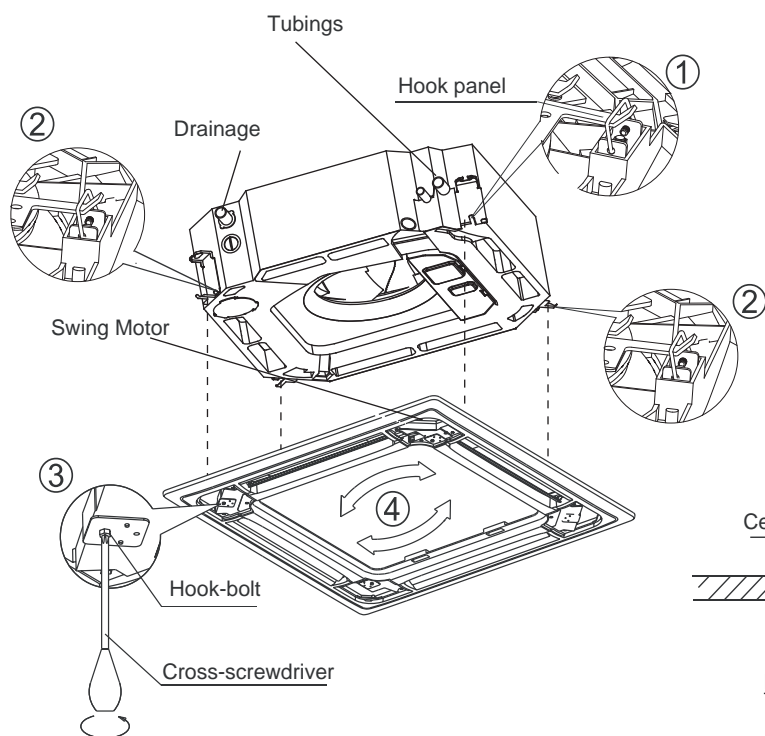

Fig.26
1. Align the swing motor on the panel to the tubing joints of the body properly.(Fig.26)